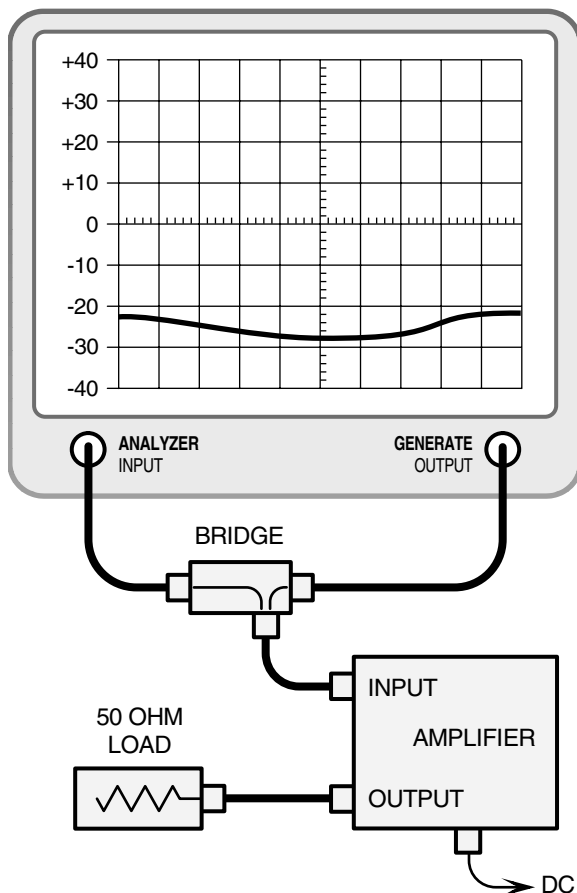

Figure 7: Measuring output return loss.
- 10) Reverse the connections as shown in figure 7 and see if the output return loss is -16 dB or more. If it is, skip to step 12.